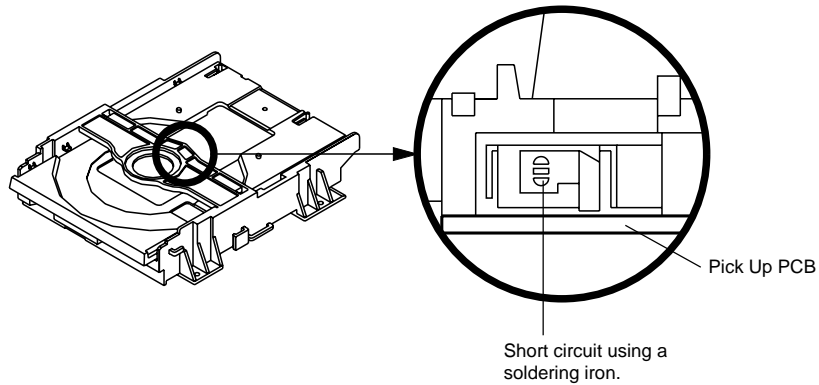
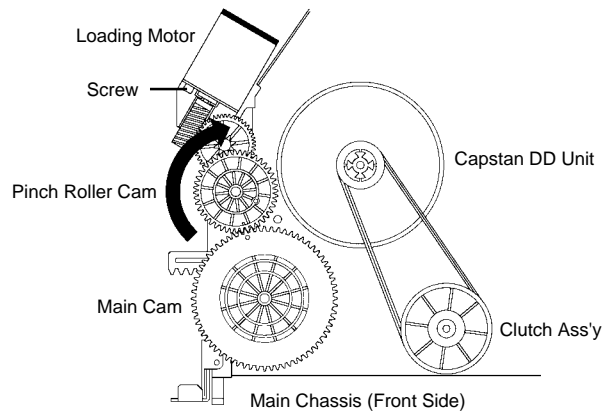

Fig. 1
Fig. 2
1. Remove the DVD/VCR block from the main unit and the Fig. 1 below can be seen.
**(Refer to item 1 of the DISASSEMBLY INSTRUCTIONS.)**
**(Refer to Fig. 2)**